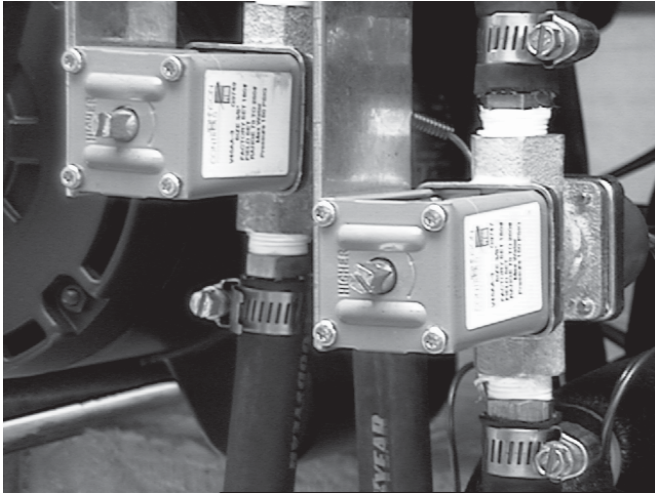

Figure 44. Water Valves
3. Remove the four bolts holding the gear box to the barrel. Figure 44.